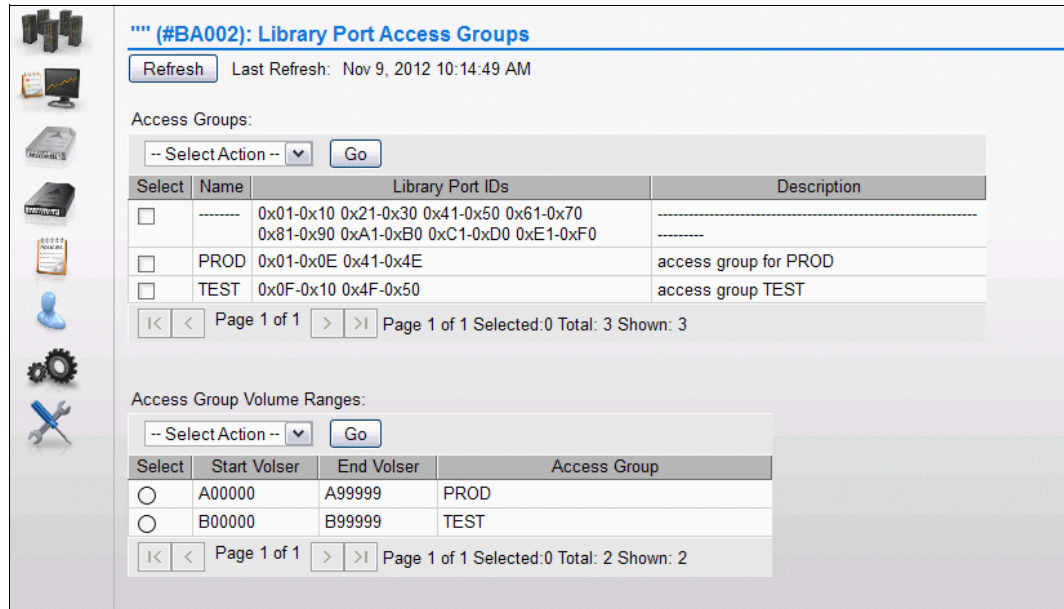

Figure I-16 Summary of access groups and VOLSER ranges
- You can see that the ranges are assigned to their correct hosts, as shown in Figure I-16.